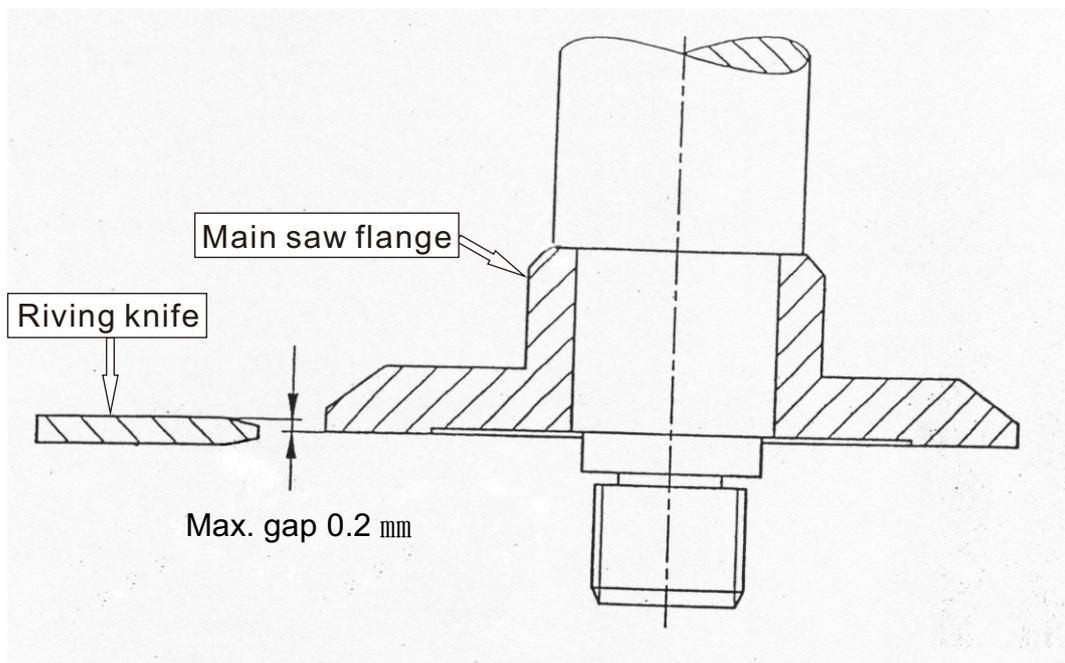

Fig.3-2-3
2. Max. gap between the riving knife and the saw is 0.2mm (as Fig. 3-2-3).